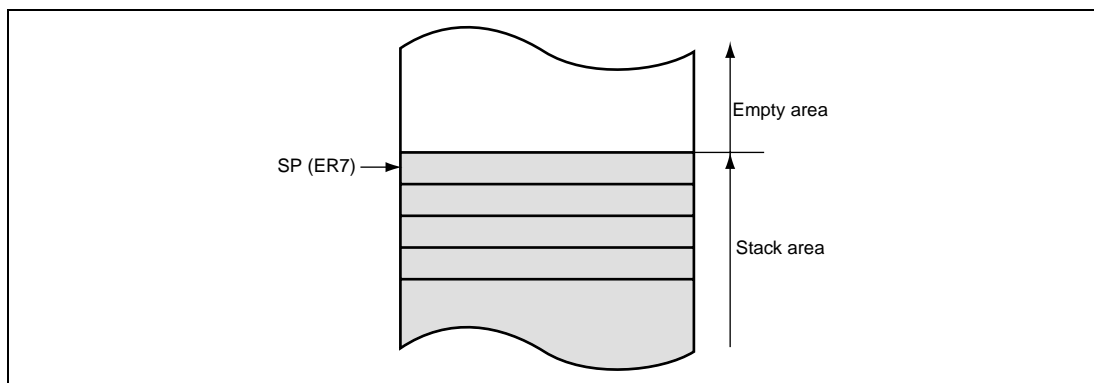

Figure 2.4 Relationship between Stack Pointer and Stack Area
General register ER7 has the function of the stack pointer (SP) in addition to its general-register function, and is used implicitly in exception handling and subroutine calls. Figure 2.4 shows the relationship between the stack pointer and the stack area.